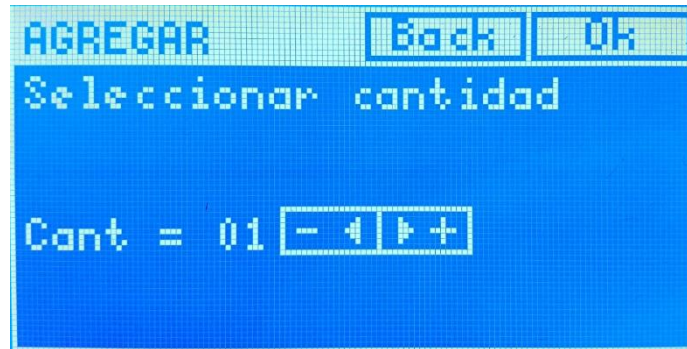

Figure 15- Screen to add pills
10. Enter the number of pills that were added to the container with the →, ← buttons (Figure 15) and press the **Ok** button to finish the initial configuration